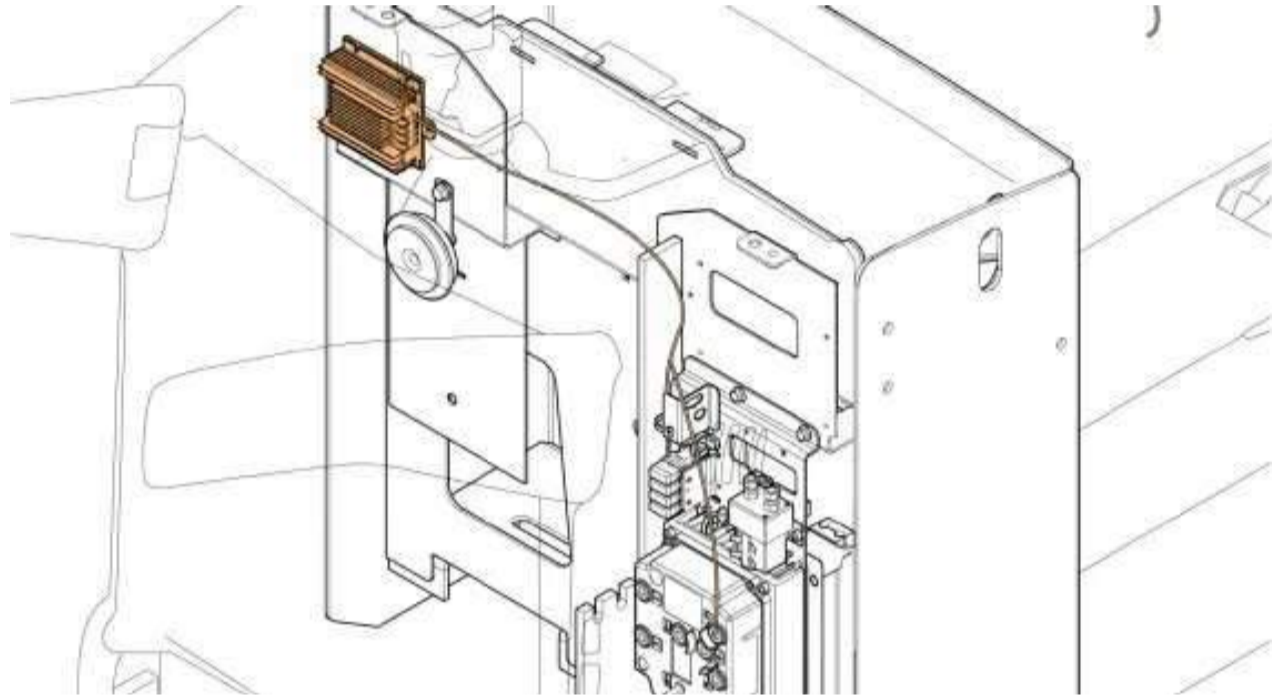

Figure 96. Voltage converter wiring overview
3. Connect the voltage converter wires according to the truck model specific schematic diagram. See Figure 96 below.